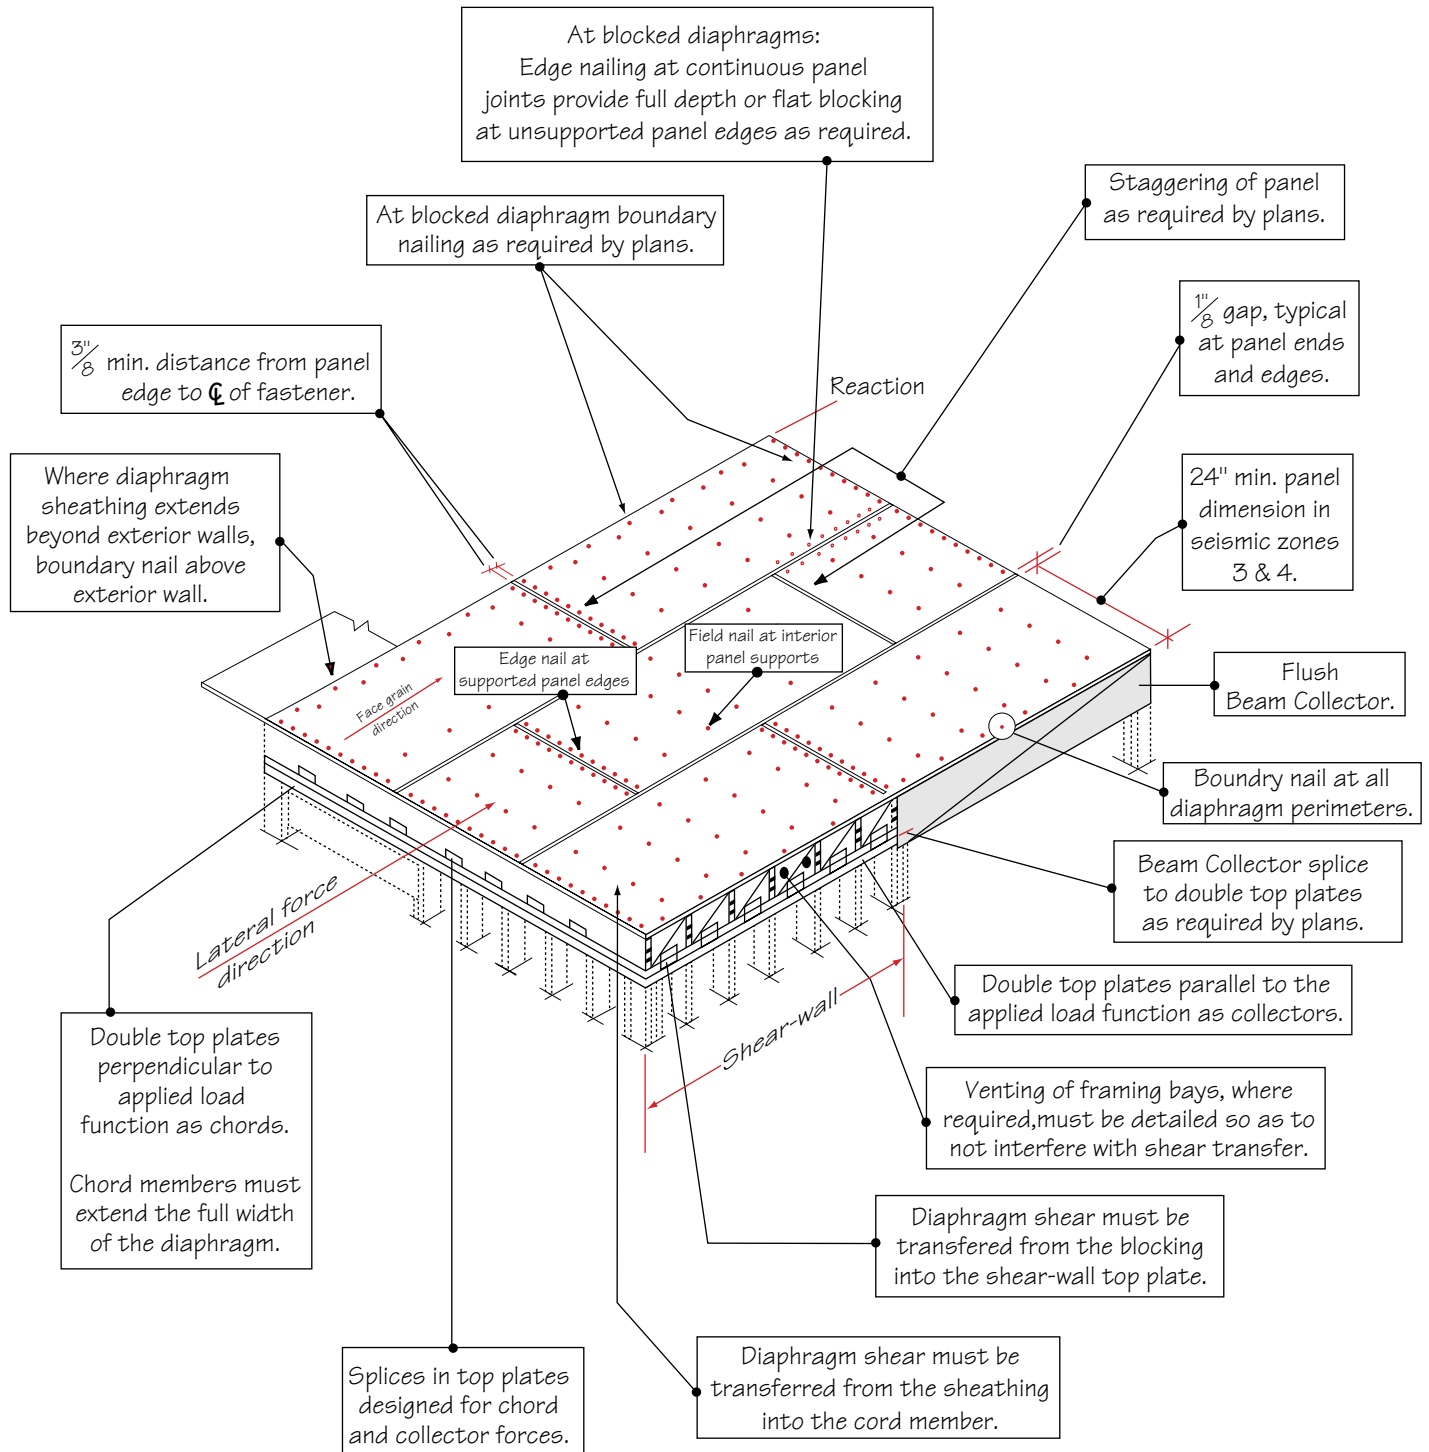

FIG. 7 ~ TYPICAL FLOOR OR ROOF DIAPHRAGM
- Figure 7 ~ Typical construction diaphragm.